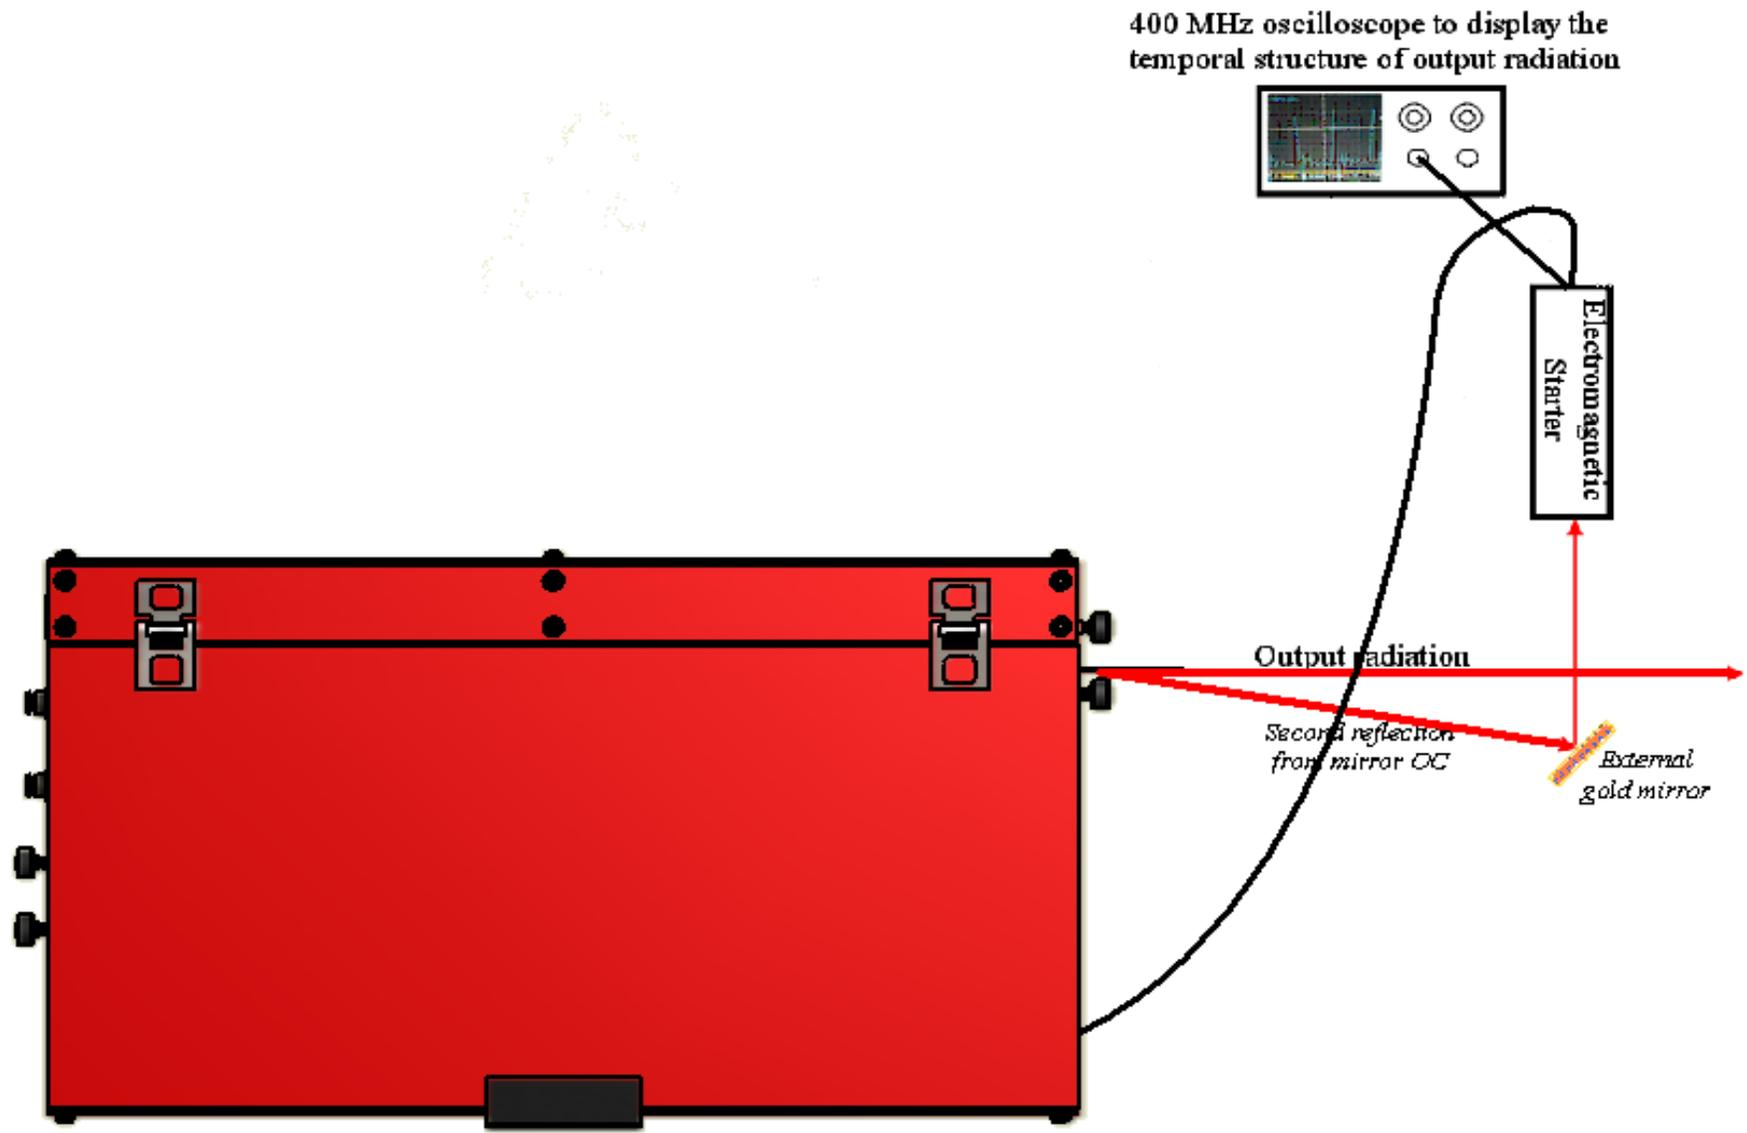

Figure 5.4
1. Place and fix your LS-6.0 on the optical table (Fig 5.4).